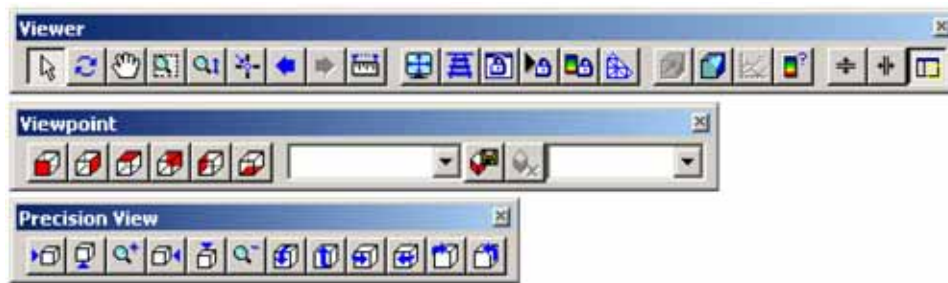

Figure 104: Toolbars used for manipulation
- Use the tools on the **Viewer**, **Viewpoint**, and **Precision view** tool bars, shown in Figure 104, as necessary to aid in viewing the results.